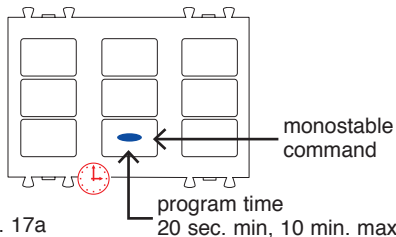

Fig. 17a
your finger in contact with the area for the time (T) (see Fig 17a and 17b), which can be re-programmed by repeating the operation, between a minimum and a maximum that are managed identically to the motorized shutter mode.